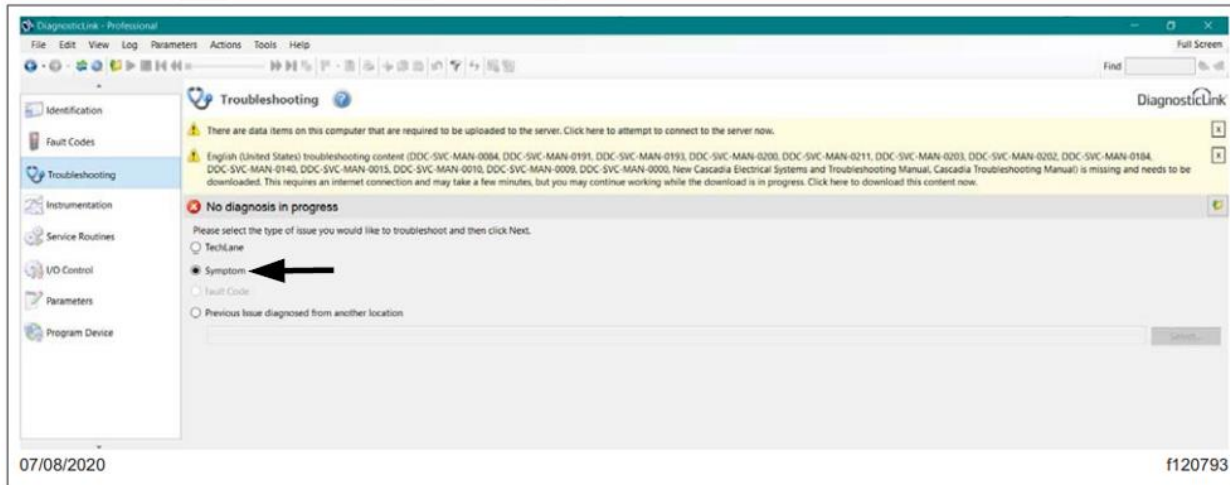

Fig. 8, Selecting the Troubleshooting Tab
15. Using DiagnosticLink version 8.12 or newer, access the troubleshooting tab and select 'Symptom.' Click the Next button, located on the bottom right side of the screen. See Fig. 8.